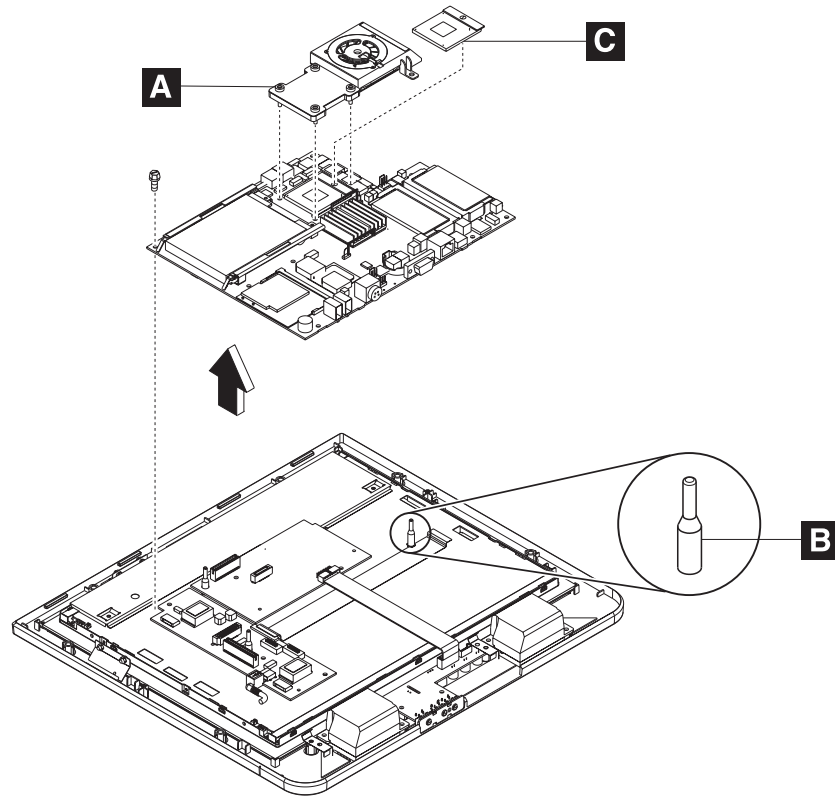

Figure 21. Heat sink and processor
2. See Figure 21 and loosen the 4 screws (**A** in Figure 21) that retain the heat sink and remove them.
Note: See Figure 21 on page 37. Locate the processor (**C**) after you remove the heat sink.